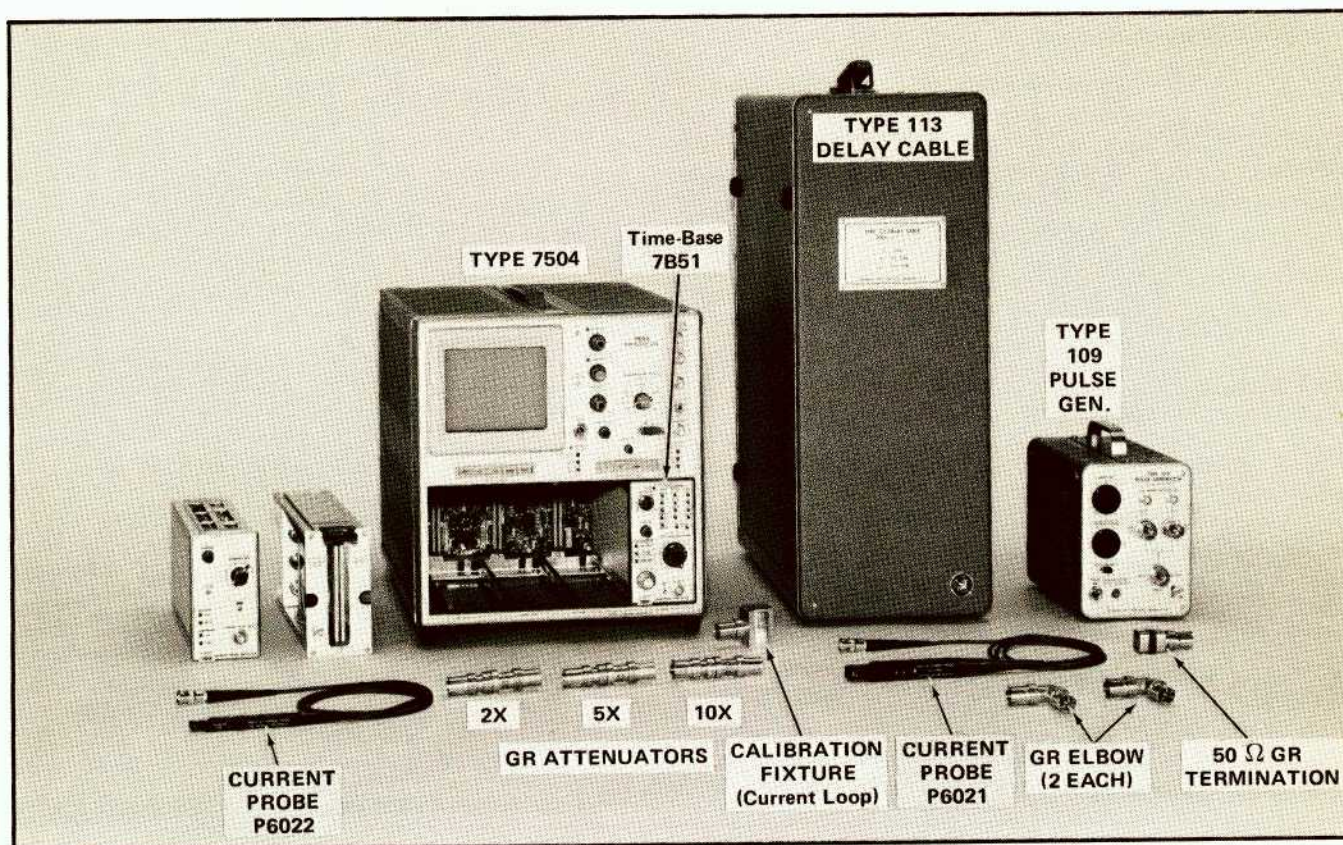

Fig. 5-2. Test equipment required for Steps 2 through 6.
2. Adjust Internal Gain Ratio ①
a. Test equipment setup is shown in Fig. 5-2; Reset the Type 7A14 CURRENT/DIV to 1 mA.
3. Adjust 5 mA Gain ①